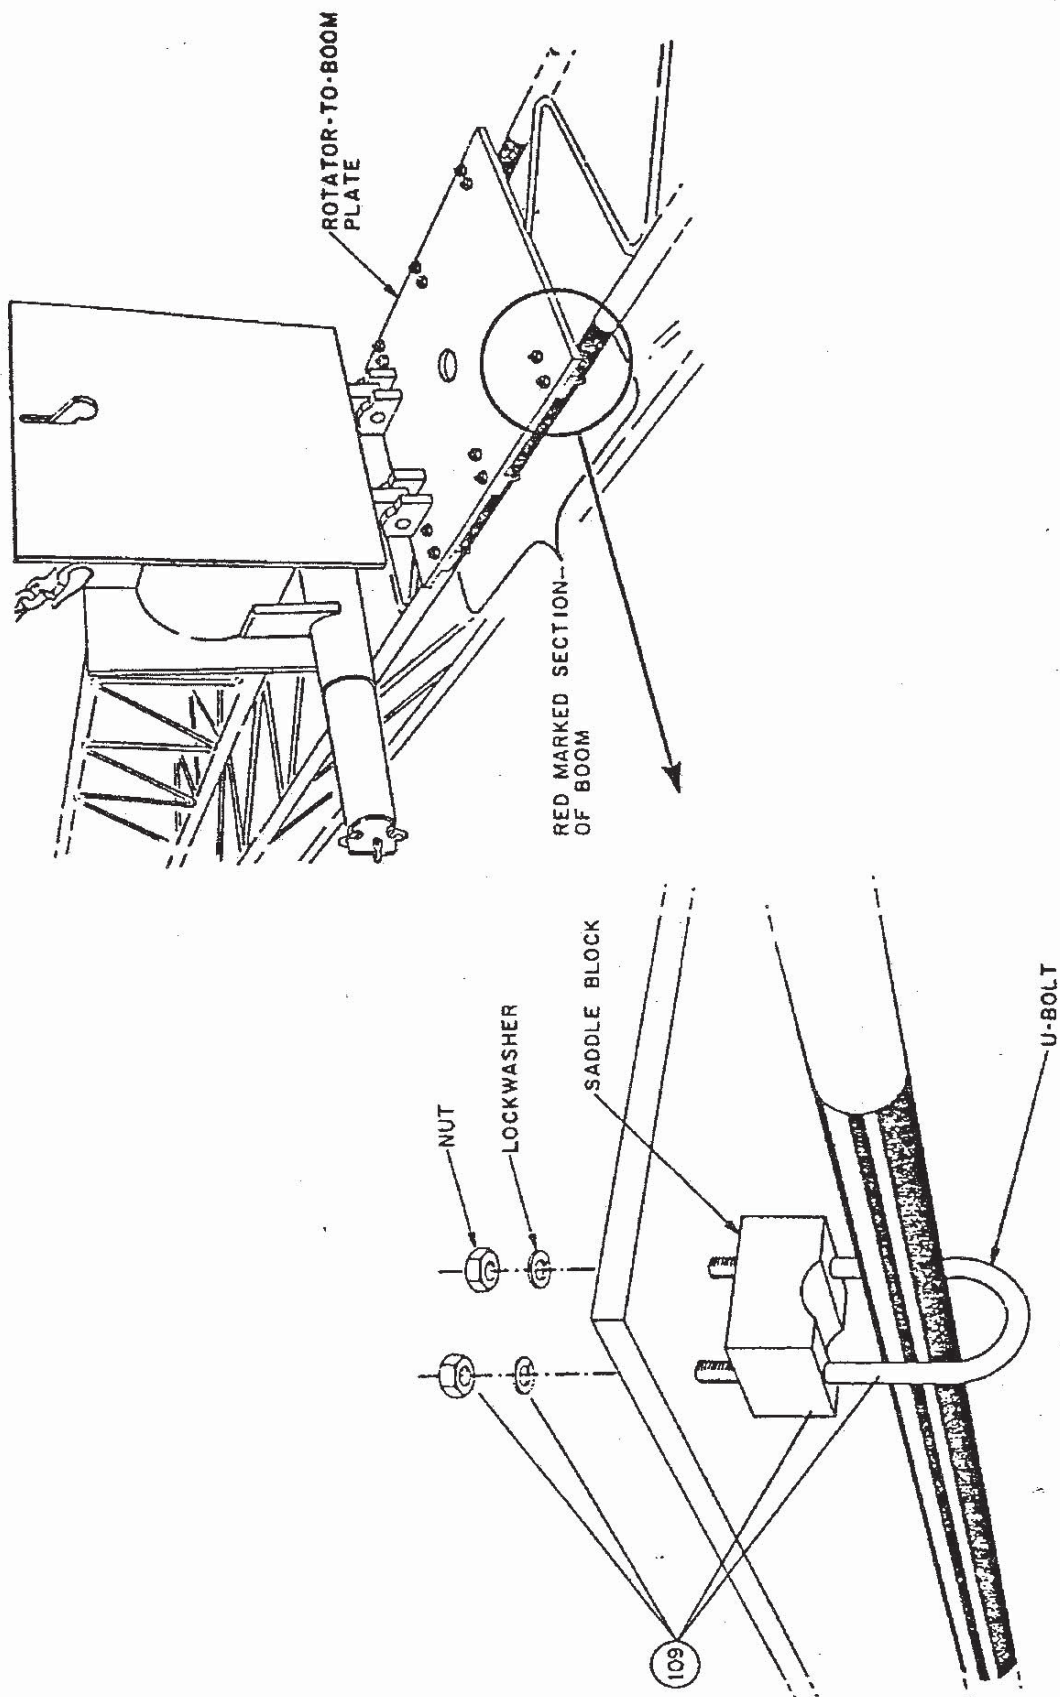

Figure 2-33
- c. Pull the small hinge plate release cable (Figure 2-18) to unlatch the hinge plate while holding the hinge plate and lower the hinge plate to the horizontal position. Move the boom under the tower. Make sure the shortest end of the boom, color coded white, lays closest to the base plate assembly. Align the red-marked region on the boom with the hinge plate as shown in Figure 2-33.
- d. One man will remove the six boom saddle block assemblies from the accessory box and assemble the red-marked region of the boom to the hinge plate as shown in Figure 2-33.
- e. The griphoist operator will lower the tower slowly until the U-bolts can be aligned with the holes and attached securely to the holes in the antenna boom plate as shown in Figure 2-33.